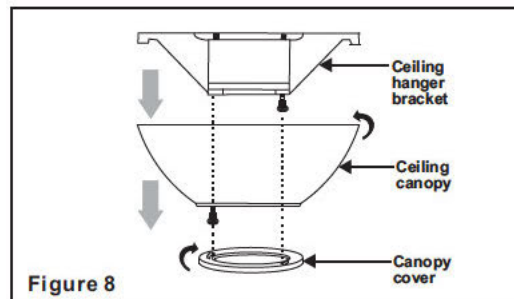

Figure 8
**Step 1.** Remove the decorative canopy bottom cover from the canopy by turning the cover counter clockwise.(Fig. 8)
**Step 2.** Remove the mounting bracket from the canopy by removing the 1 of 2 screws from the bottom of the mounting bracket and loosening the other one a half turn from the screw head. Next, turn the canopy counter clockwise to removing the mounting bracket from the canopy. (Fig. 8)